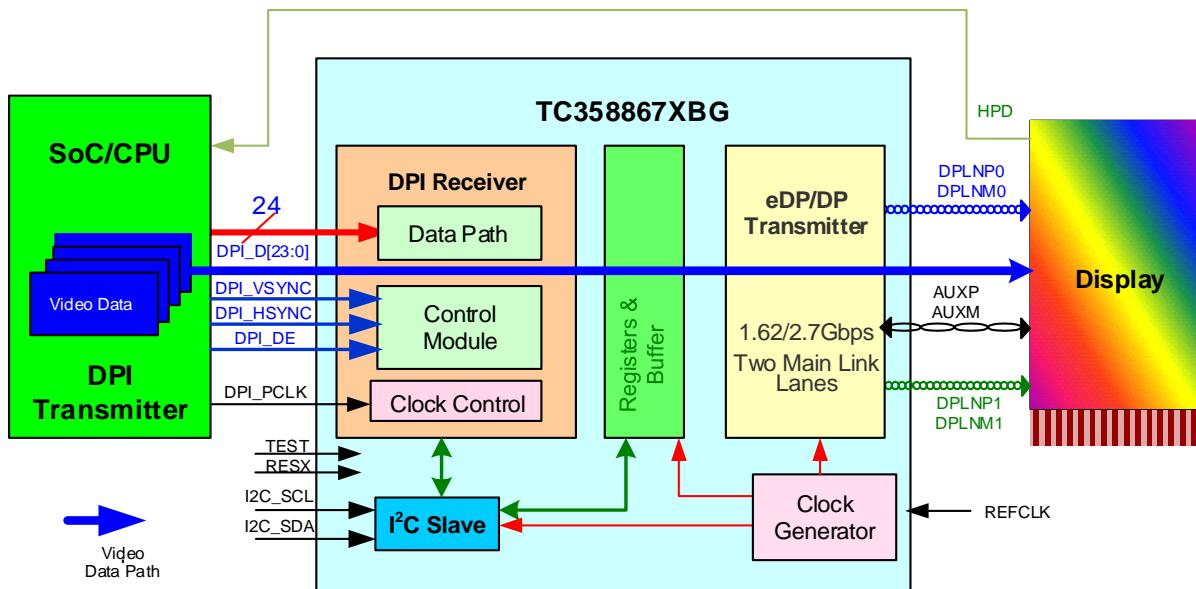

Figure 1.2 System Overview with TC358867XBG in MODE_P21 Configuration
- Mode_P21: A system configuration where TC358867XBG may typically be used is shown in Figure 1.2. This is similar to the Mode_S21 except that the video stream source is from DPI Host. In this configuration, the TC358867XBG can support displays with resolution up to WUXGA (1920x1200) at 24bit, 60 fps.